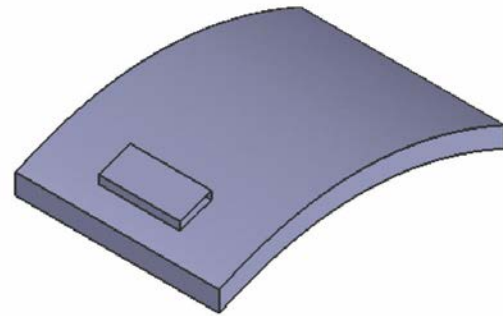

Figure 11-74 Resulting extruded feature
2. Extrude the sketch through a symmetric distance of 10 mm. The resulting surface model is shown in Figure 11-74.